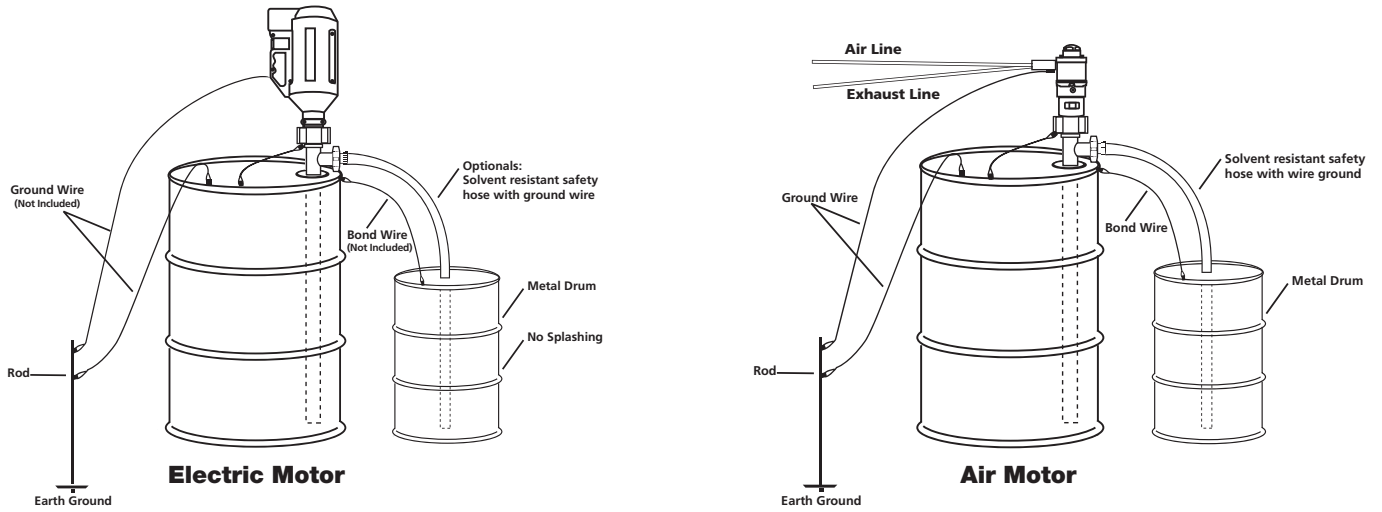

Figure 2 - Static Protection Kit
- Install the Pump and Static Protection Kit as described in Figure 2 on page 7.
Bonding and grounding are required when pumping flammable materials or in hazardous duty environments. Failure to bond and ground properly can cause a discharge of static electricity resulting in fire, injury or death. Follow NFPA 77 and 30 procedures at all times. If in doubt, do not start pump! Be sure bonding and grounding wires are secure before starting operation. (Ground and bond wires must have less than one ohm resistance for safe usage. Check continuity before starting). Always check with a safety engineer when any question arises and periodically check safety procedures with a safety engineer (see Figure 2, page 7).